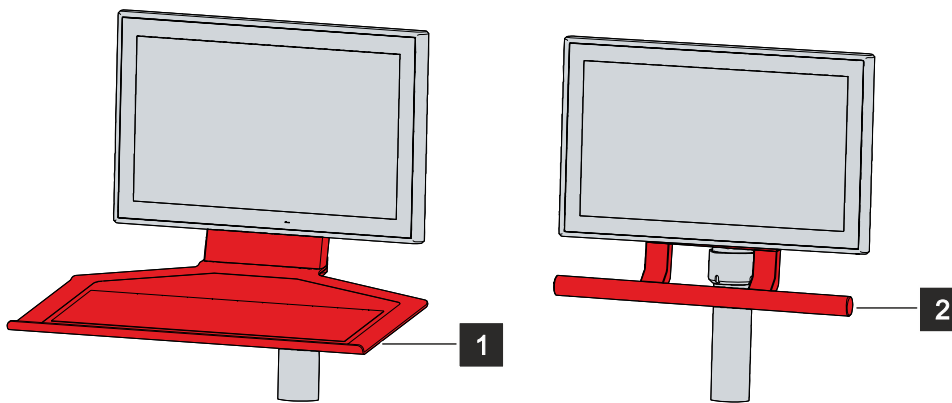

Fig. 2: Toolboard and handle
You have the option of ordering the control panel with mechanical extensions such as a toolboard (1) or a handle (2) (see Fig. 2). The extensions are mounted ex factory. The following ordering options are available to you: